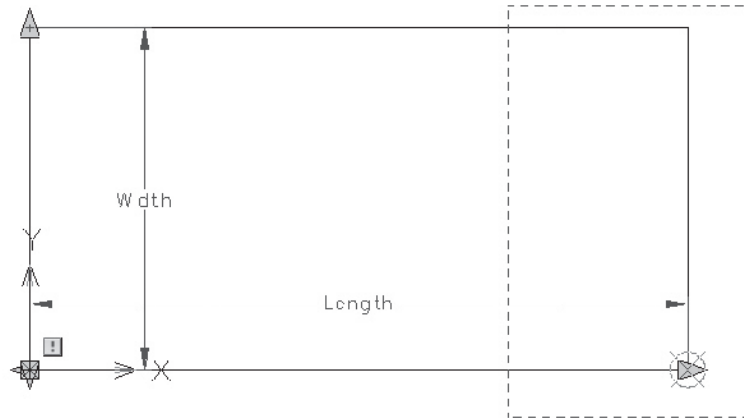

Fig. 34-4
5. In reply to **Specify first corner of stretch frame**, use a standard crossing window (right to left selection). Place the window as shown in Fig. 34-4. Be sure to include the interior line that represents the bedcovers in the crossing window.